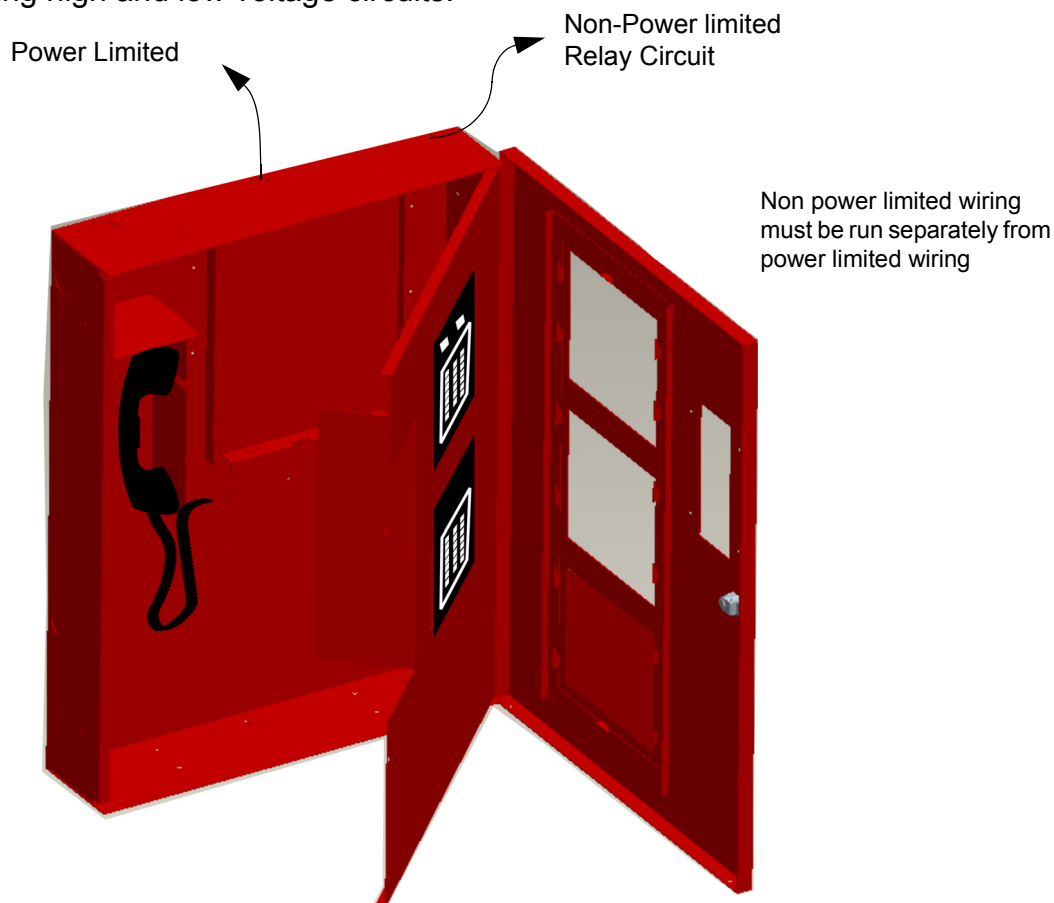

Figure 2-4 Wire Routing Example
- Route the wiring around the inside perimeter of the cabinet. It should not cross the circuit board where it could induce noise into the sensitive microelectronics or pick up unwanted RF noise from the high speed circuits. See Figure 2-4 for an example.